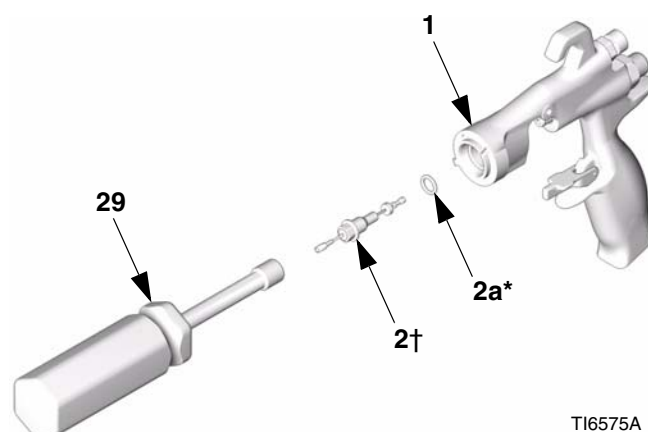
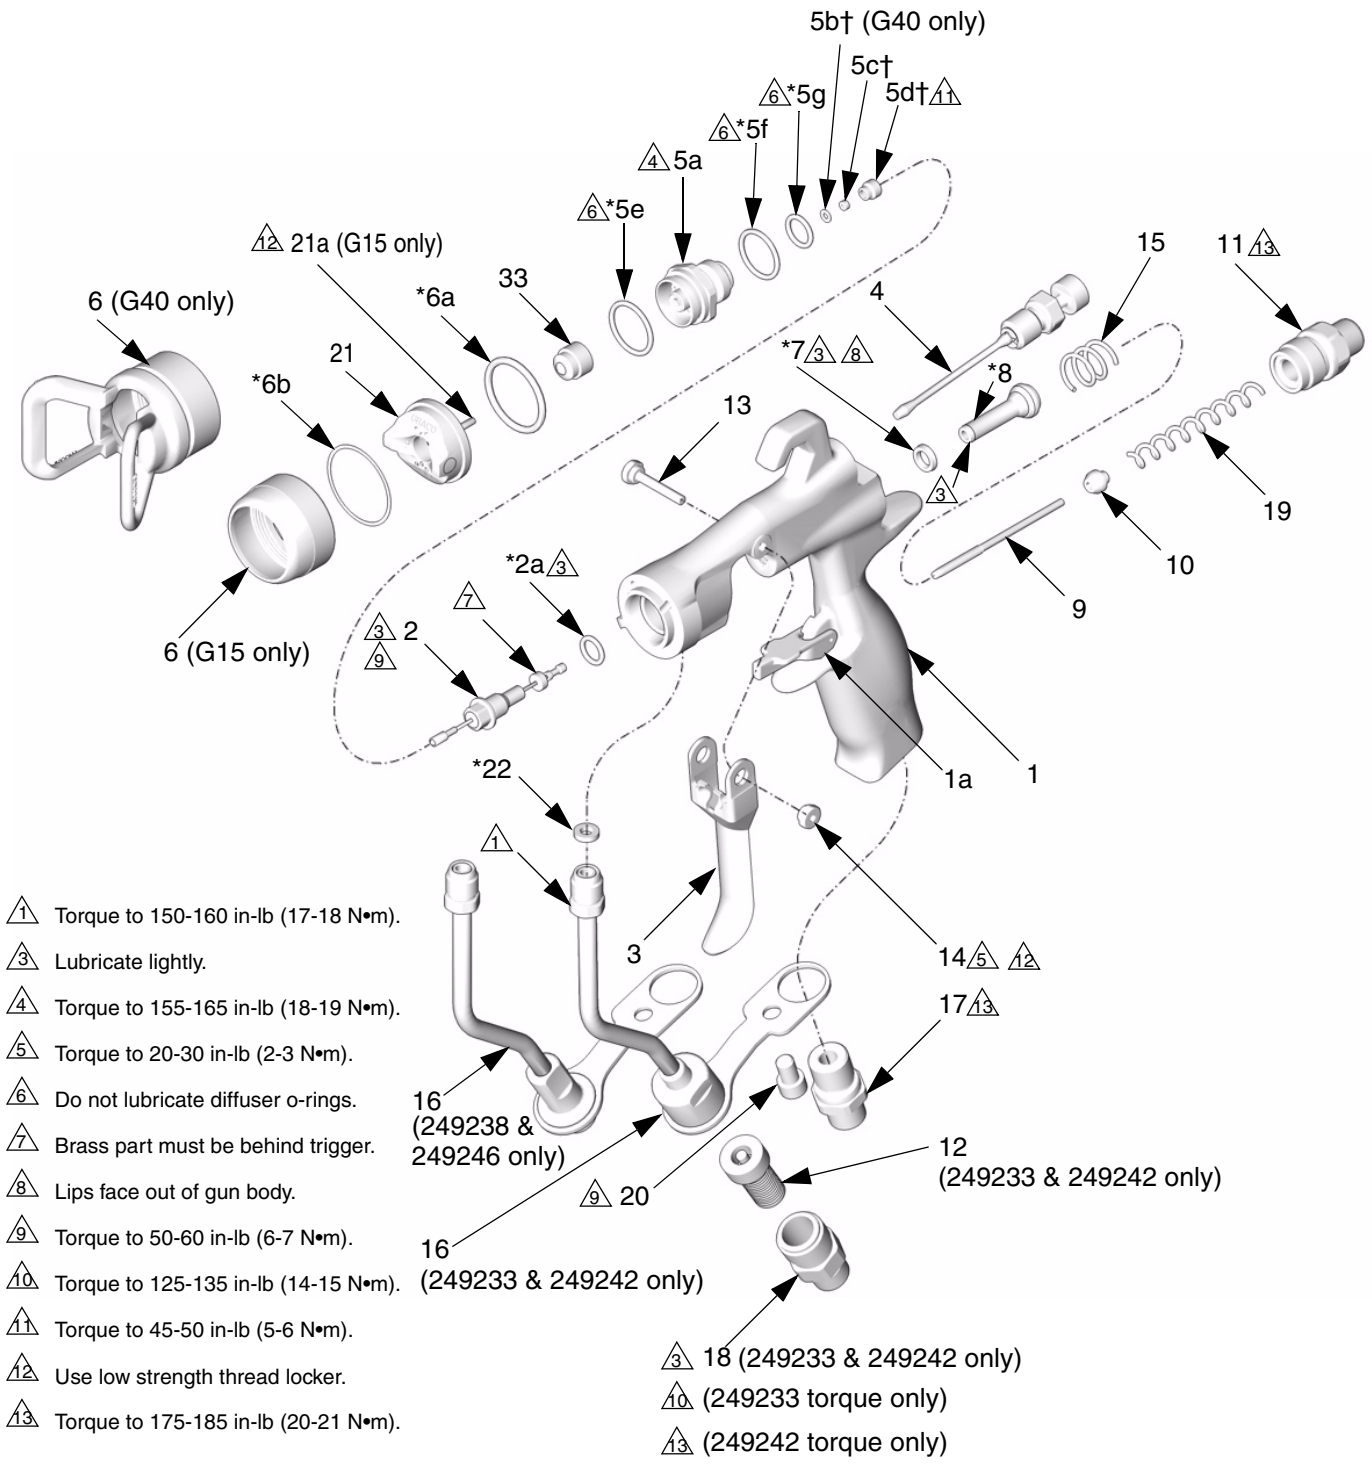

FIG. 43
FIG. 44
1. Install the tube gasket (22*) in the gun. Handtighten the fluid tube connector (C) into the gun's fluid inlet. Handtighten the air inlet fitting (17) and screw (20). Torque the fluid tube connector to 150-160 in-lb (17-18 N•m). Torque the air inlet fitting to 175-185 in-lb (20-21 N•m). Torque the fluid tube bracket screw to 50-60 in-lb (6-7 N•m). See FIG. 44.
2. Install the inline fluid filter (12) into the base of the fluid tube. Screw the fluid inlet fitting (18) into the base of the tube. Torque to 175-185 in-lb (20-21 N•m). See FIG. 44.
4. Lubricate the front end of the air valve assembly (8*). Gently slide the air valve assembly into the back of the gun, passing through the u-cup (7*), as far as it will go. Be careful not to damage the u-cup. See FIG. 44.
5. Slide the seat (10) onto the shaft (9). Be sure that the tapered end of the seat is toward the thicker end of the shaft. Carefully insert the shaft (9) and seat (10) in the air valve (8*).
6. Install the two springs (15 and 19). Screw the spring cap (11) into the back of the gun body. Torque to 175-185 in-lb (20-21 N•m).
7. Lightly lubricate the needle assembly o-rings and shaft where the packing slides. Be sure that the o-ring (2a*) is in place in the gun body (1).
8. Insert the fluid needle assembly (2) into the front of the gun. Use the nut driver (29) to screw the fluid needle assembly into the gun body (1) and torque to 50-60 in-lb (6-7 N•m). See FIG. 43.
9. Install the trigger (3), pivot pin (13), and nut (14). Use low strength thread locker and be sure that the brass piece of the fluid needle assembly (2) is behind the trigger. See FIG. 44. Lubricate both sides of the pivot pin where the trigger contacts the pin and lubricate the boss on both sides of the gun where the trigger contacts the gun body. Torque the nut to 20-30 in-lb (2-3 N•m).
10. Trigger the gun to pull the needle back while you screw the diffuser assembly (5) into the gun body (1) using the gun tool (30). Torque to 155-165 in-lb (18-19 N•m). When properly tightened, the flange will bottom out on the gun.
11. Attach the retaining ring (6), air cap (21), and spray tip (33).